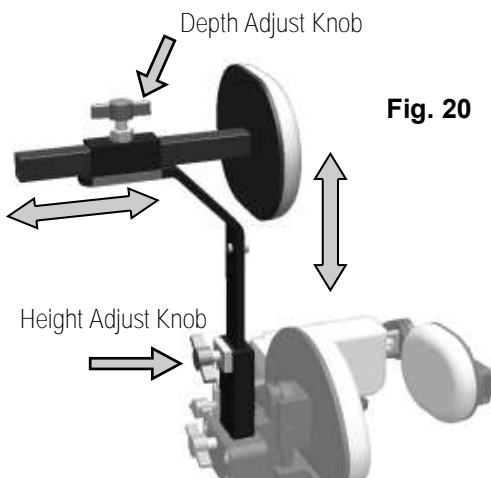

Fig. 20
- Adjust Headpad or Headrest height and depth to desired location and tighten the adjustment knobs (fig. 20).